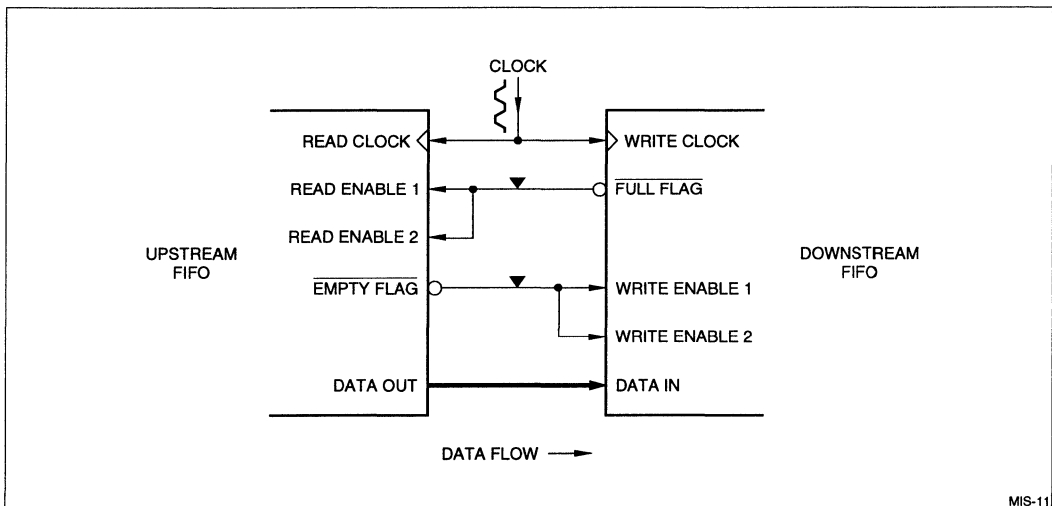

Figure 4. Cascading Interface Between Handclasp-Architecture FIFOs
Apart from the use of the transfer clock, the handclasp interconnections between a FIFO and its downstream successor in the cascade look very similar to those for asynchronous-handshake FIFOs; see Figure 4. The downstream FIFO's Full Flag is connected to both of the upstream FIFO's Read Enable inputs; and the upstream FIFO's Empty Flag is connected to both of the downstream FIFO's Write Enable inputs. It is all right to connect duplicate enables together at the FIFO ports *interior* to the cascade; although the duplicate-enable functionality often is needed at the two extreme ends (input and output)
- [3] Preliminary Datasheet, Sharp LH540215/25 512×18/1024×18 Synchronous FIFO, *1993 Sharp Memory Data Book*, pages 5-226 to 5-262. Refer in particular to Table 5 and to Figure 4.